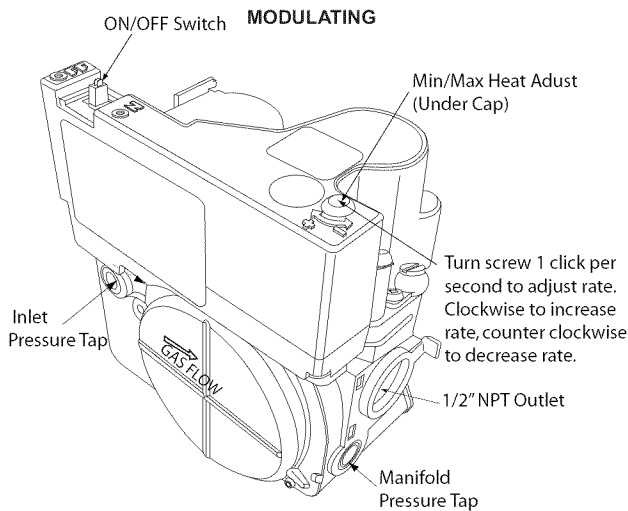

Fig. 13 - Gas Valve
3. Attach manometer to manifold pressure tap on gas valve. (see Fig. 13.)